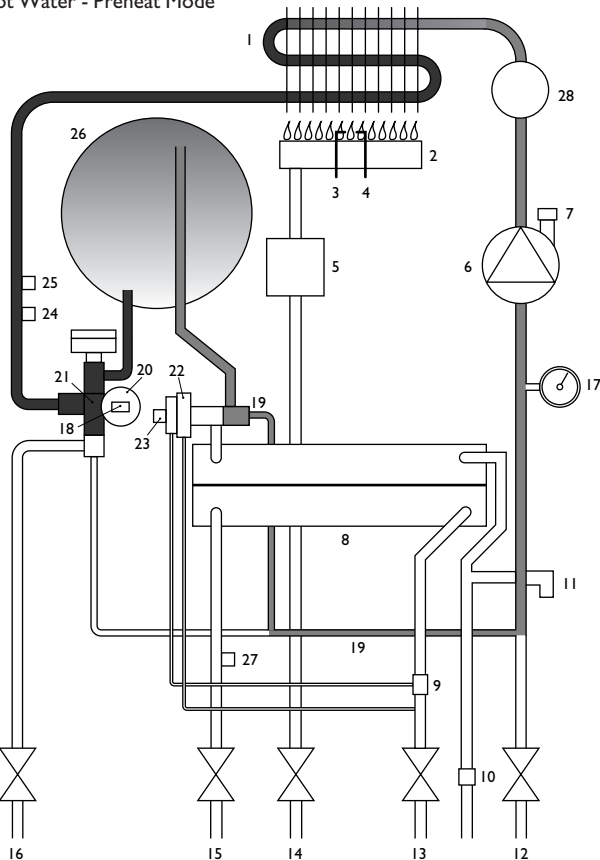

Fig. 3
3.2 Domestic Hot Water - Preheat Mode (Fig. 3)